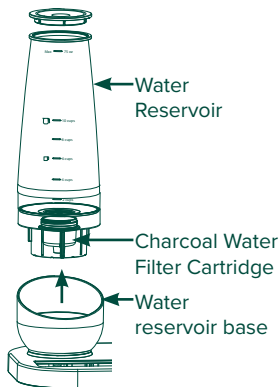

Figure: 1
- 2** Remove the water reservoir from the base. See Figure: 1.